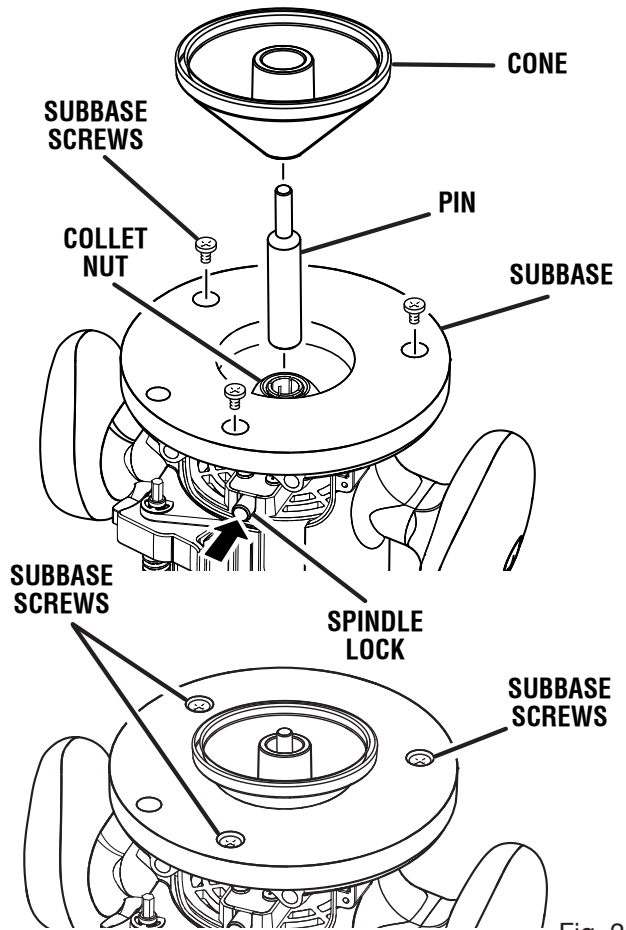

Fig. 23
See Figure 23.
When attaching the router to a routing table, remove the subbase, and use the router table attachment screws provided with the router. Use these screws to replace the sub-base screws shown in figure 23.
- Place the cone on the pin and lightly press down on the cone until it stops as shown in figure 23. This will center the subbase.